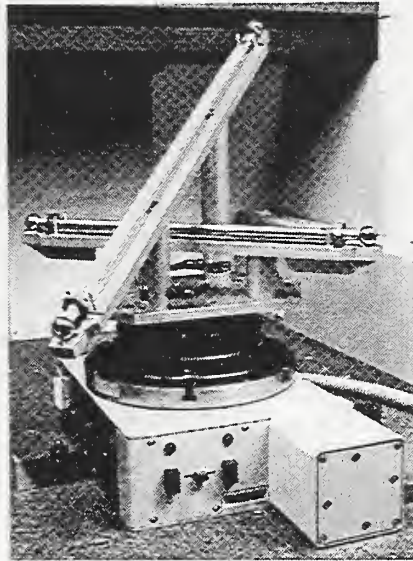

Figure 24. Manual/Rotary system and rotary table
Step 3. Attach the ball bar support structure and ball bar (see Figure 24):